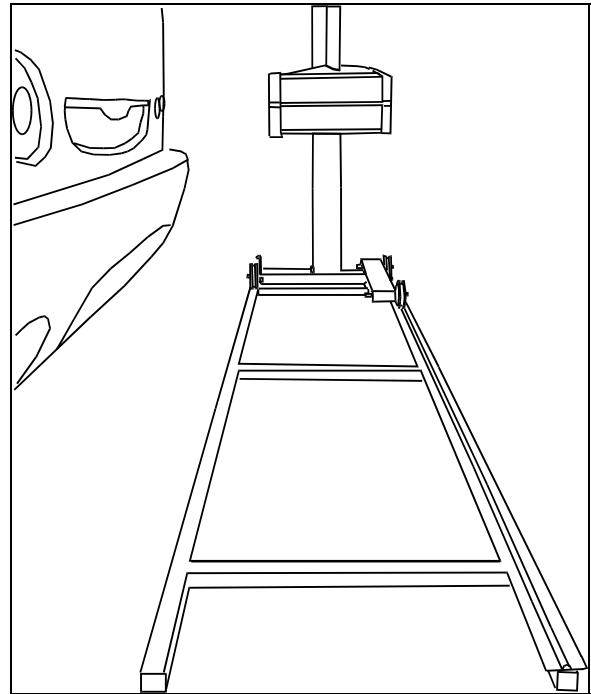

FIGURE 45: INSTALLATION OF HOOPY 100 ALIGNER 06496
5. Install "Hoopy 100" Aligner onto support rail (Fig. 45).
3. Install “Hoopy 100” Aligner onto support rail (Fig. 45). Turn aligner ON.